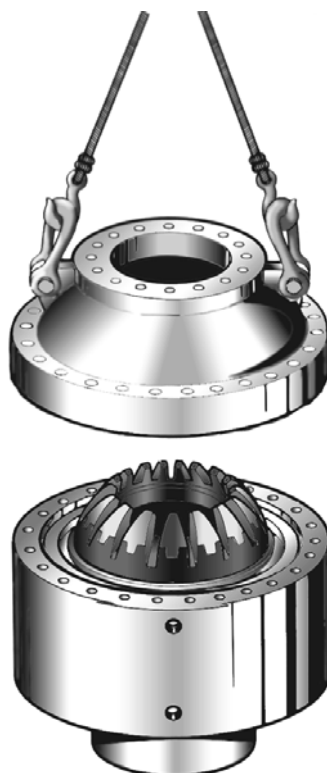

Figure 4-16. Removing the Upper Housing (Applicable to All Models)
2. Remove the upper housing (6) by lifting with the anchor shackles (see Figure 4-16).
4. Install the upper housing onto the lower housing (19) (see Figure 4-16 on page 4-15).
2. Remove the upper housing (6) by lifting with the anchor shackles (see Figure 4-16 on page 4-15).